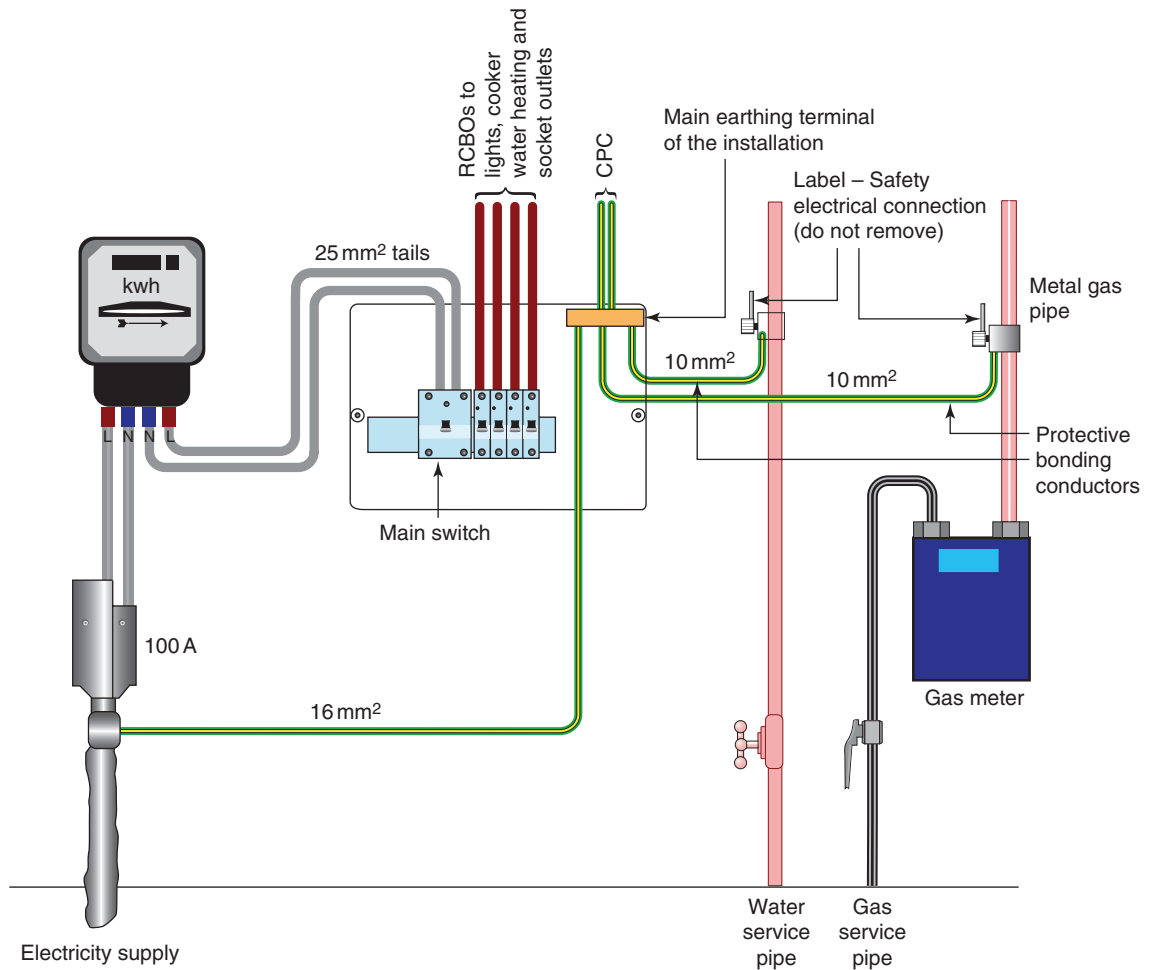

Figure 3.34 Cable sheath earth supplies (TN-S system) showing earthing and bonding arrangements.
The RCBO gives the combined protection of an MCB plus RCD for each final circuit so protected and, in the event of a fault occurring, only the faulty circuit is interrupted. This arrangement is shown in the OSG at Figs 2.1(i) to 2.1(iii) and in this book at Figs 3.34 to 3.36.
This is one of the most common types of supply system to be found in the United Kingdom where the electricity companies' supply is provided by underground cables. The neutral and protective conductors are separate throughout the system. The protective earth conductor (PE) is the metal sheath and armour of the underground cable, and this is connected to the consumer's main earthing terminal. All extraneous conductive parts of the installation, gas pipes, water pipes and any lightning protective system are connected to the protective conductor via the main earthing terminal of the installation. The arrangement is shown in Fig. 3.34, and in Fig. 3.8 of the IET Regulations.
Figures 3.34, 3.35 and 3.36 show the layout of a typical domestic service position for these three supply systems. There are two other systems of supply, the TN-C and IT systems, but they do not comply with the supply regulations and therefore cannot be used for public supplies. Their use is restricted to private generating plants. For this reason I shall not include them here but they can be seen in Part 3 of the IET Regulations.
Figures 3.34 to 3.36 show circuits protected by RCBOs. The use of RCBOs will minimize inconvenience and disruption in the event of a fault occurring, because only the faulty circuit will be disconnected by the RCBO. However, alternative consumer unit arrangements using MCBs and RCDs are permissible and are shown in the *On Site Guide* at Section 3.6.3.